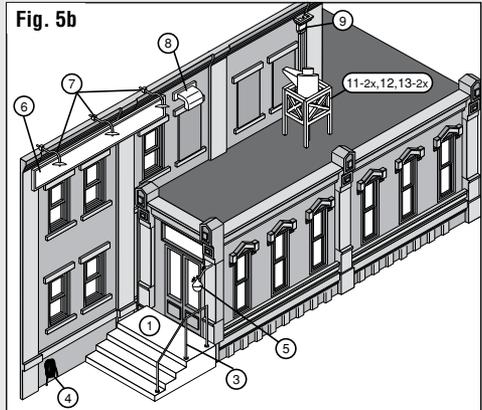

Fig. 5b
Front (Fig. 5b): Stair Railing (3), Hose (4), Globe Light (5), Front Sign (6), Light 3x (7), Exhaust Hood (8), Short Downspout (9), Dust Collector Assembly (11-2x, 12, 13-2x)